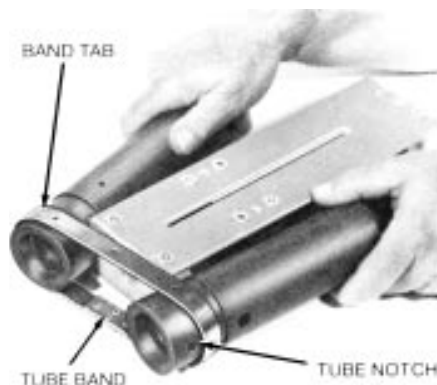

Figure 29.
- B. To free the contact tubes from the housing, grasp a tube firmly in each hand and with a slow steady movement spread the tubes away from the housing, as shown in Figure 29, until the band is released from the tubes.
- A. Use the reverse order of step 3B and Figure 29 to reassemble the tubes and tube band, making sure the notch in the tube lines up with the tab in the band.